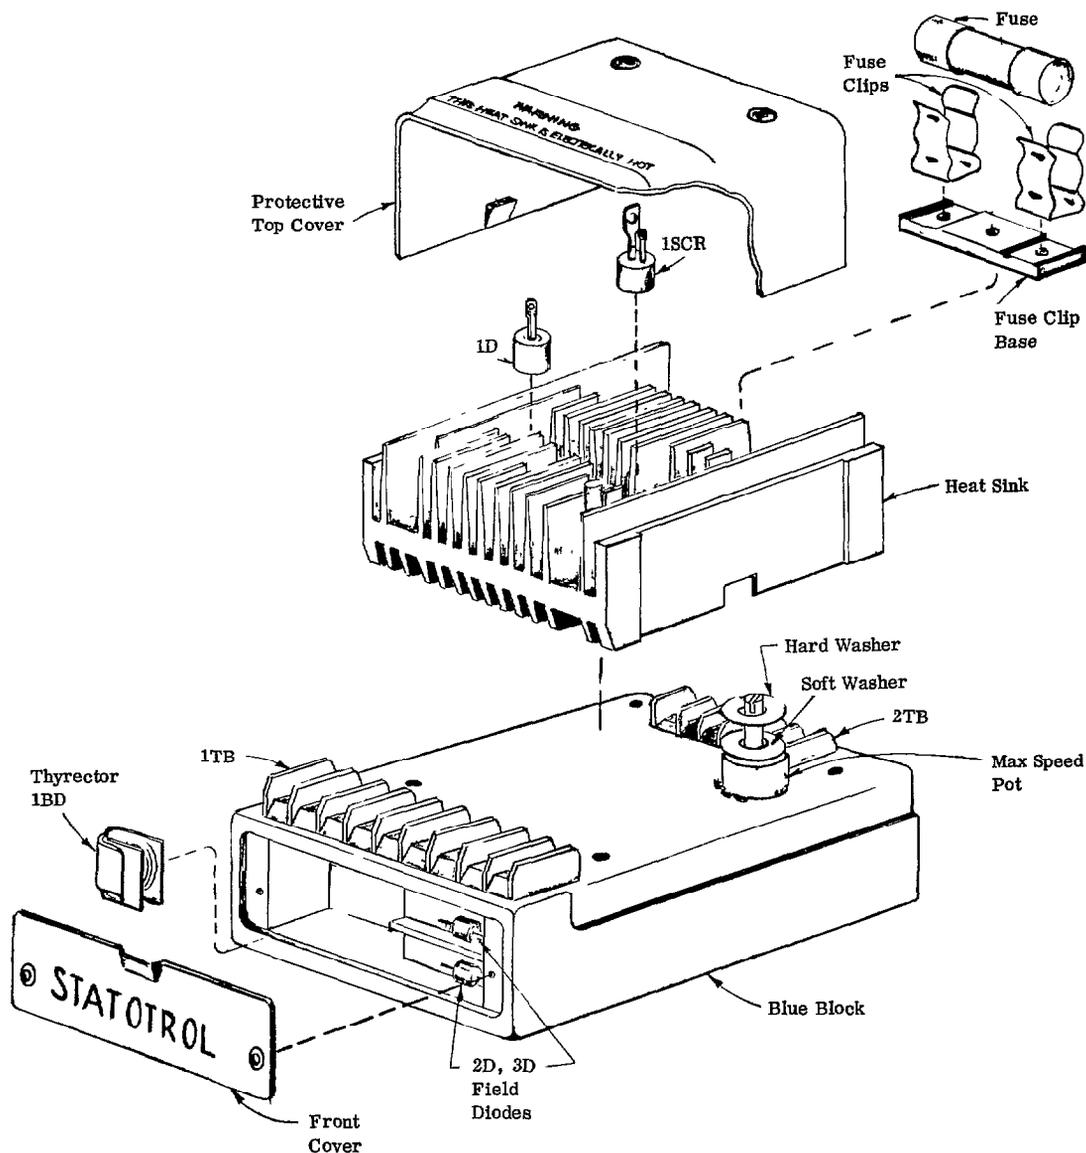

Figure 6
(DC) to drive the motor. Silicon rectifiers are used to supply constant field current and a silicon controlled rectifier is used to supply adjustable armature voltage. The control circuitry is encapsulated in an epoxy block, and is equipped with a special current limit circuit to limit surge current in the motor. Standard fuses and a current limit circuit provide rectifier protection. Figure 6 shows the assembly of the basic Statotrol controller while Figure 7 shows the connections on the controller.
Step B. If the voltage across the test points between circuits 102 and 122+ exceeds 4 to 6 volts, check connections on the wire between the component board and terminal 2 on terminal board 2TB of the potted module. Then, locate the maximum speed potentiometer which is mounted on the potted module (see Figure 6). Rotate the maximum speed potentiometer. If this controls the speed of the motor, replace the component board. If rotation of the maximum speed potentiometer does not control the speed of the motor, replace the potted module (see instructions below).
The components mounted on the blue block should be checked first since they can be replaced. These components consist of field rectifiers (2D, 3D), silicon controlled rectifier 1SCR, series rectifier (1D), Thyrector (1BD), and maximum speed potentiometer (2P). (See Figure 6 for location.)